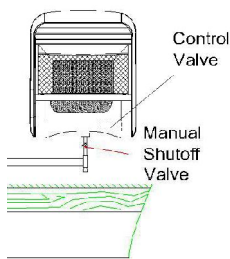

Figure 14 -Checking Gas Connections
3. Check all joints from gas meter to equipment shut off valve (See Figure 14) Apply mixture of liquid soap and water to gas joints. Bubbles forming show a leak.
4. Check all joints from equipment shutoff valve to control valve (see Figure 14). Apply mixture of liquid soap and water to gas joints. Bubbles forming show a leak.